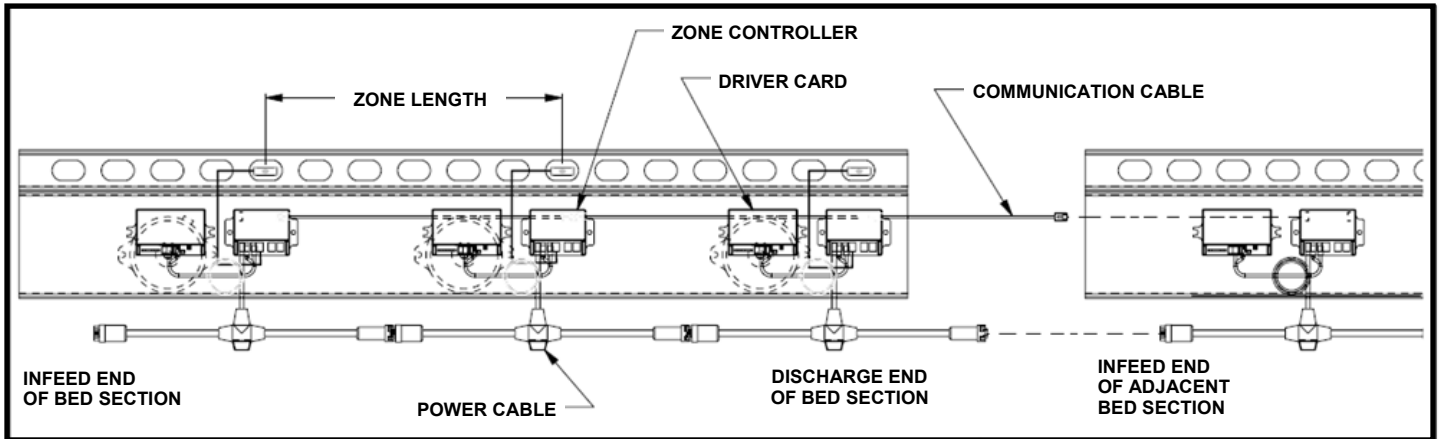

FIGURE 10.1
- 8) Connect the communication and power cables at each bed joint (See Figure 10.1).
At the discharge end of each zero pressure bed section, you will find a communication cable and power cable that needs to be plugged into infeed zone of the downstream bed section (See Figure 10.1). All other connections internal to the bed are prewired.